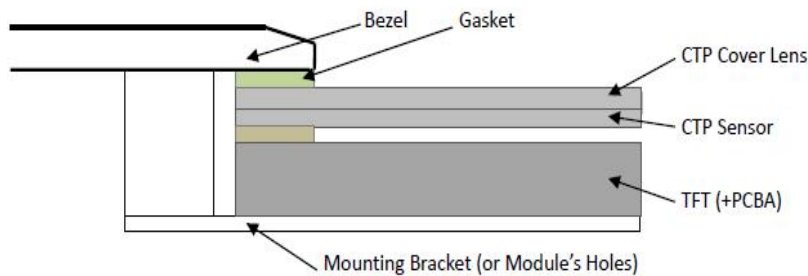

Figure 1
7.1 Bezel Mounting (Figure 1)
7.1 面框安装 (附图 1)